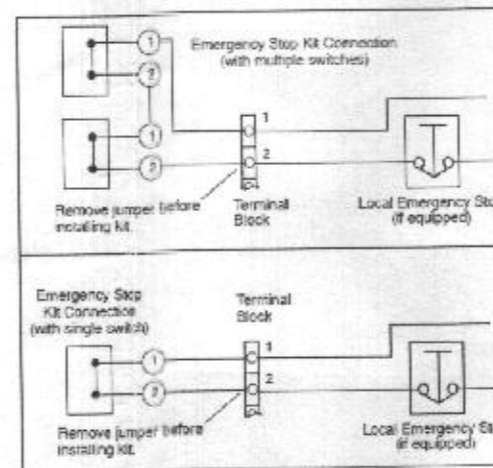

Figure 4 Multiple E-Stop Connections in Series
- 3.9.3 Splice local emergency stop leads in series with remote switch lead connected to terminal TB1-1 as shown in Figure 4.
- 3.10 If multiple remote E-stop switches are used, connect the switches in series so that activating any one of the switches will stop the engine. See Figure 4.